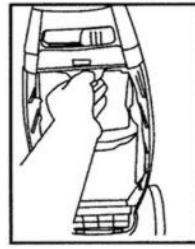
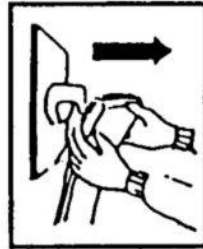

Fig. 5
Fig. 6
- Remove the old dust bag by holding the cardboard tab and pull towards you. Remove carefully to avoid dust/dirt spilling from dust bag. (Fig. 5 & Fig. 6))